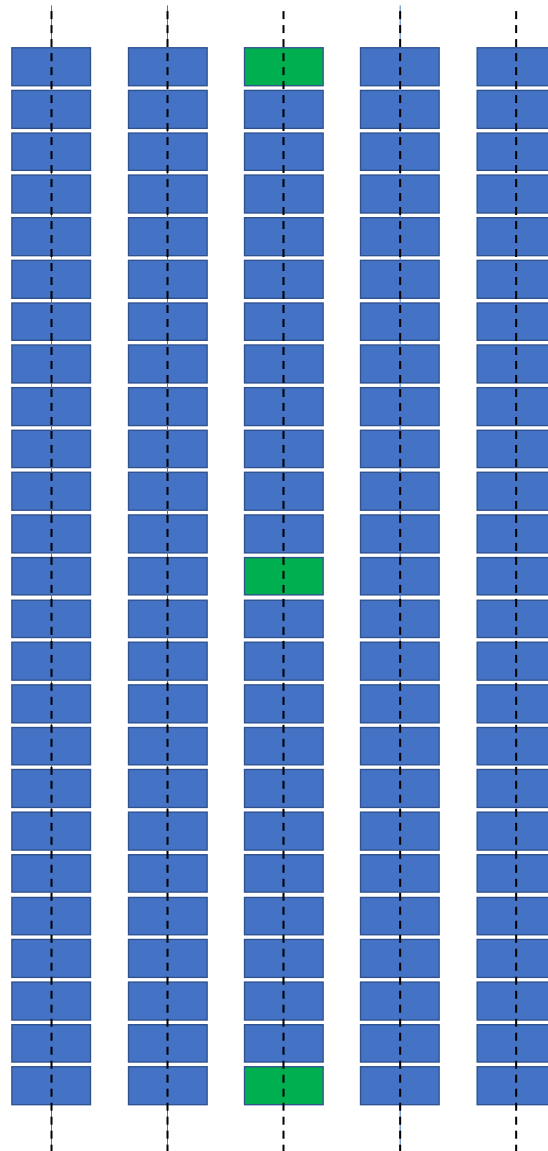

Figure 2. Field layout for IP Trackers. Front and rear irradiance is calculated for green modules. Gap between modules along the row is 2 mm
- 1-up Portrait: 5 rows, each with 25 modules (Figure 2)
- Module temperatures for the middle and end modules in the middle row (Figure 2 and Figure 4 shows these in green) for every hour